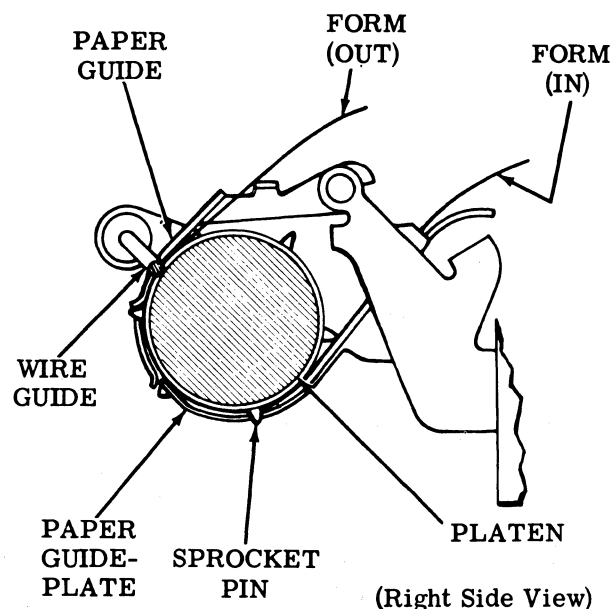

Figure 13 - Form Threading — Sprocket Feed
3.16 Figure 13 illustrates form threading for a sprocket feed typing unit.